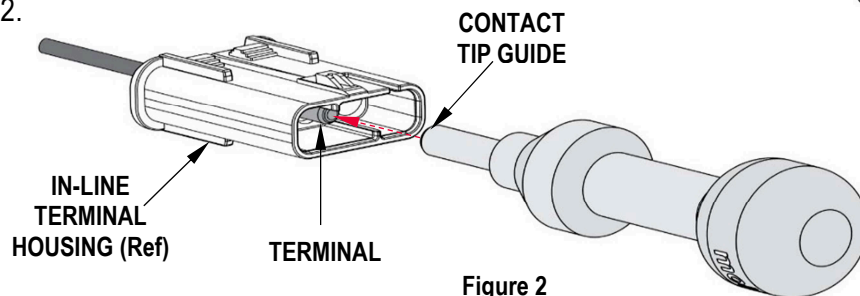

Figure 2
2. Position the extraction tool so that the contact tip guide can be pushed onto the plug or receptacle end of the contact housing assembly. See Figure 2.